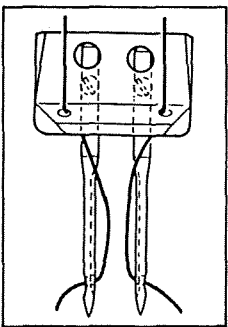

Fig. 7
- (1) DP x 5 or DP x 7 needles must be used for this model.
- (2) Insert 2 needles fully into the needle clamp in such a manner as to make their long grooves face with each other as shown in Fig.7 and securely tighten with the clamp screws.